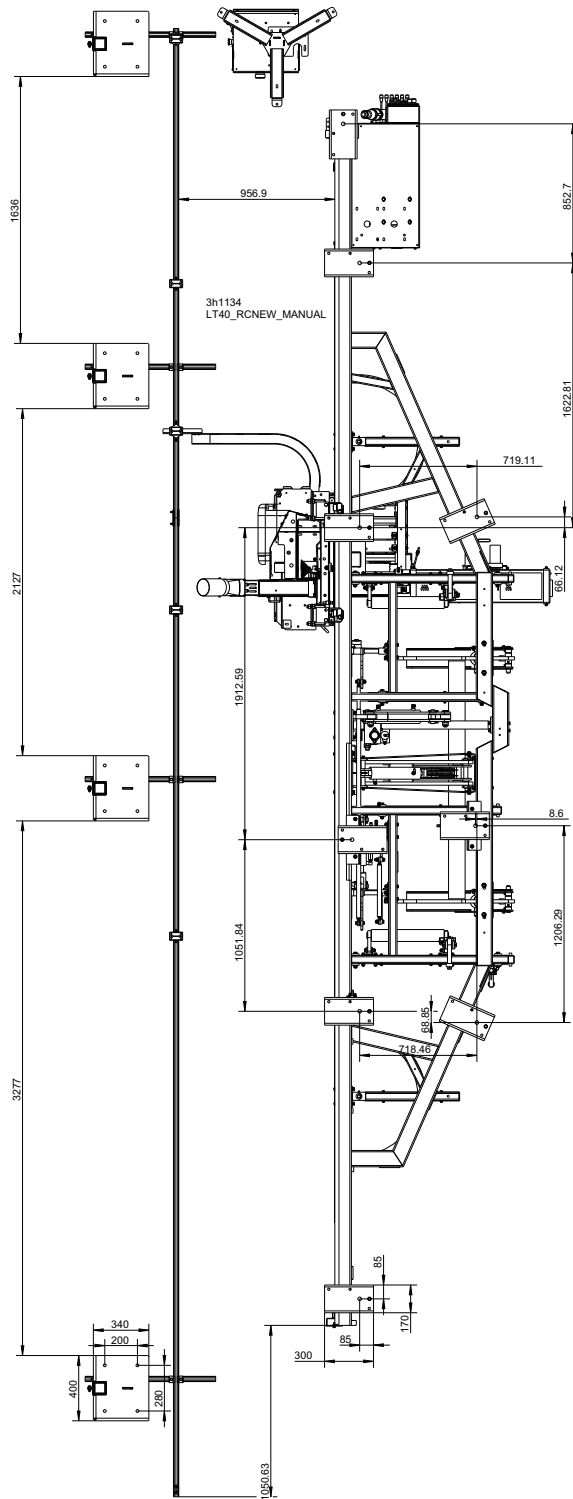

FIG. 2-1 LT40MRC
**See Figure 2-1.** Set up the mill on firm footing and level by eye. Fasten the mill to the floor to prevent any creep after prolonged use. A cement pad with 5/8" (16 mm) diameter anchor bolts is recommended. The cement pad should be rated to support 6350 lbs./sq.ft. (31 T/m2) at each sawmill foot position.
**See Figure 2-1.** The figure below shows setup of the sawmill, the control box and the guiding rail columns.